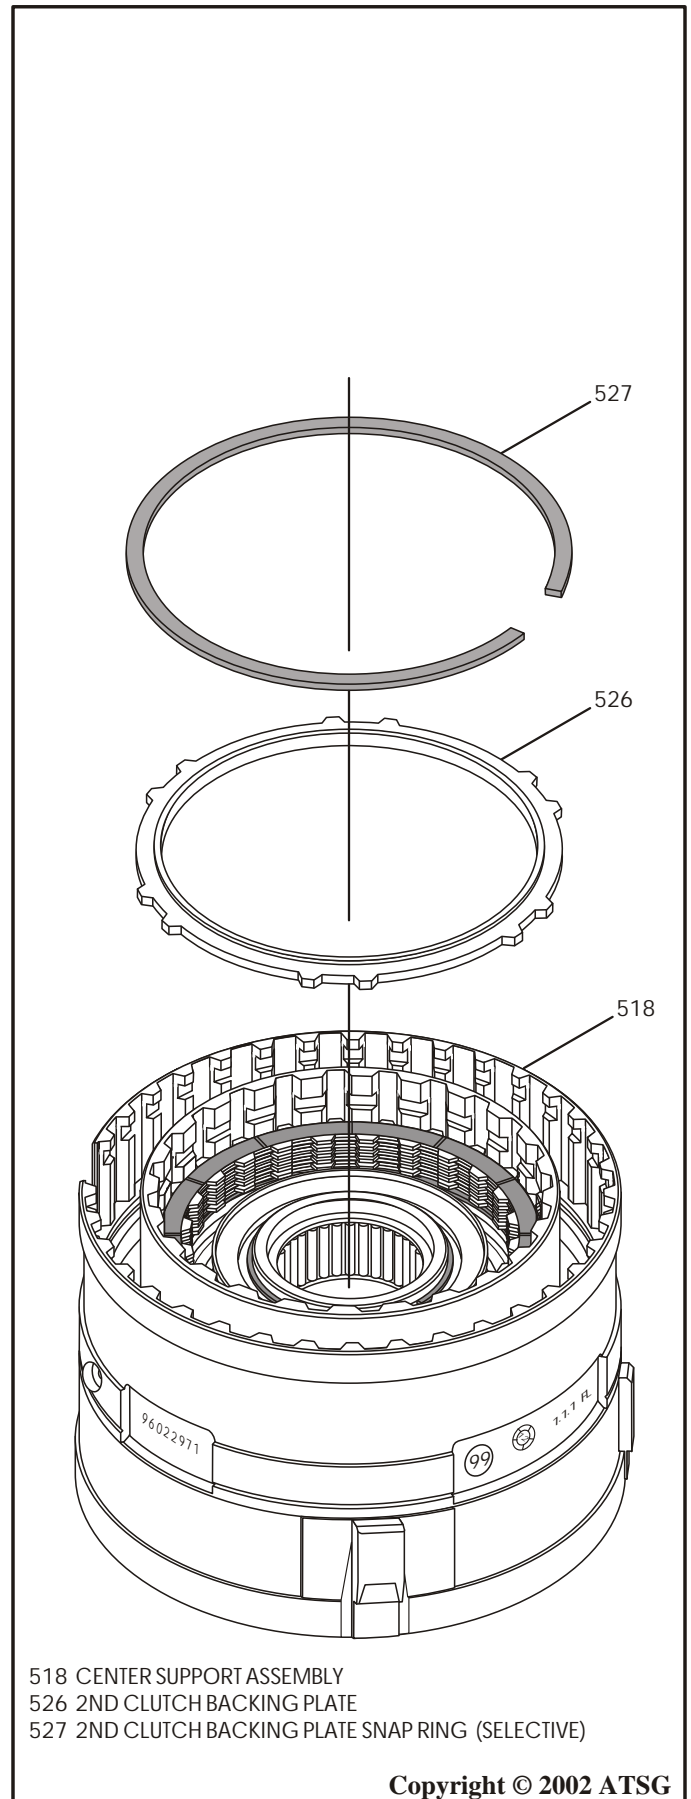

Figure 142
24. Install the 2nd clutch backing plate, as shown in Figure 142.